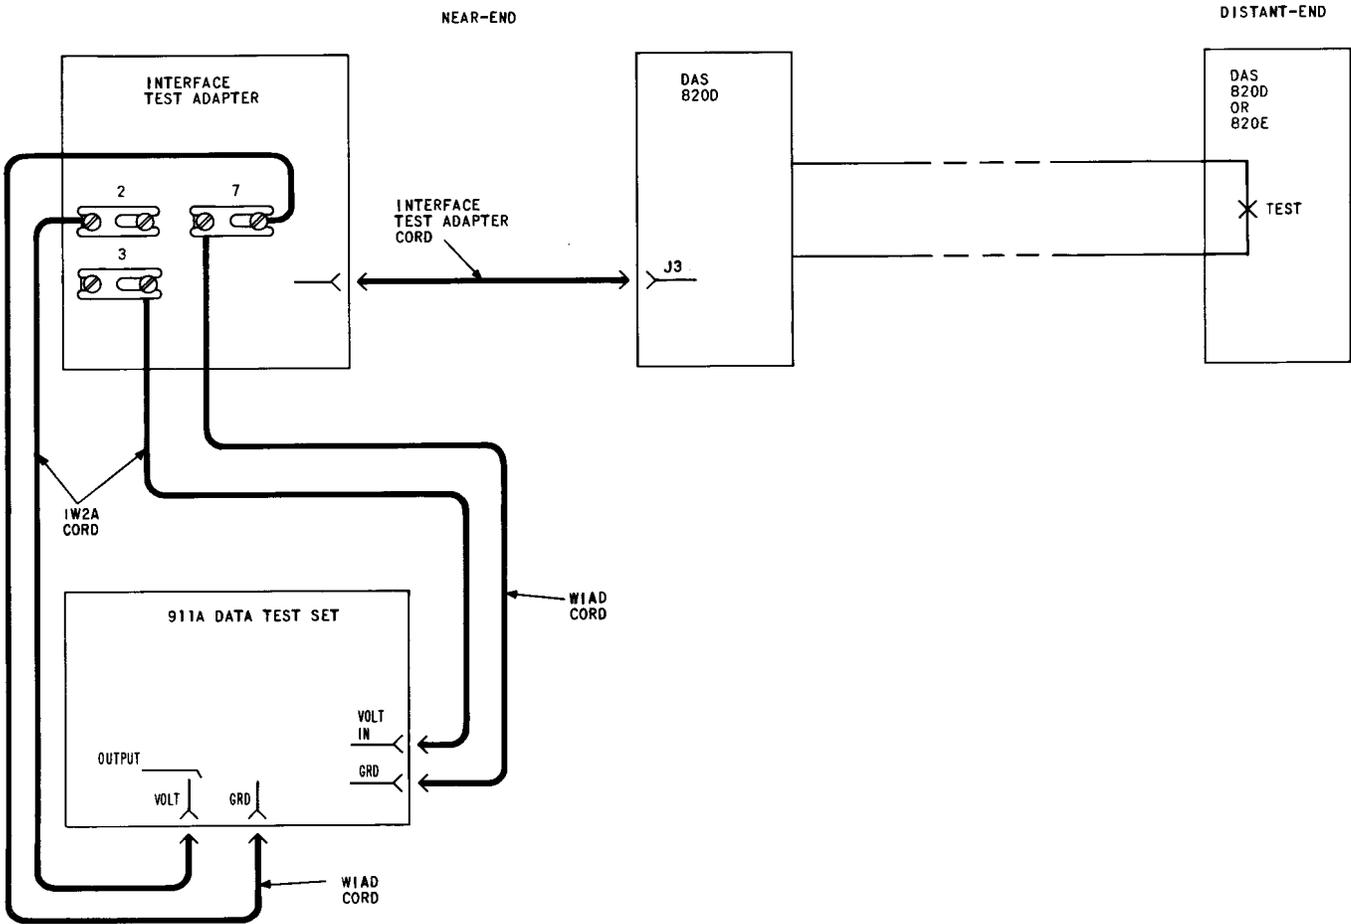

Fig. 3—Distortion Test Using 911A Data Test Set (EIA Interface Shown)
**3.15** The block diagram (Fig. 3) shows the equipment setup at the terminal with EIA voltage interface for testing both directions of transmission. This checks the transmitter and receiver of both data sets and the two directions of transmission of the connecting facilities. Refer to 3.18(2), (4), and (7) for current interface information.